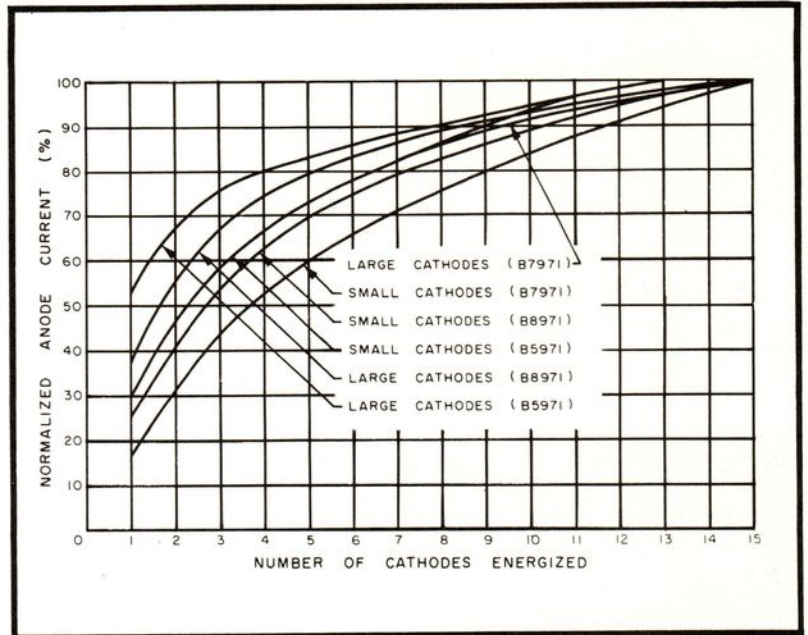

Fig. 20
6. Power requirements for the tubes depend to a large extent upon the application; i.e., the maximum number of cathodes required to be ionized at any one time. The graph shown in Fig. 20 gives the normalized anode current as a function of the number of cathodes ionized.